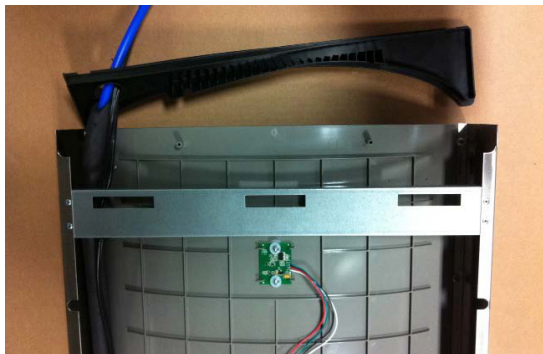

Fig. 9
- 5) **Feed power cord & 3/8" water line** through hole in tower/basin gasket (See Fig 9).